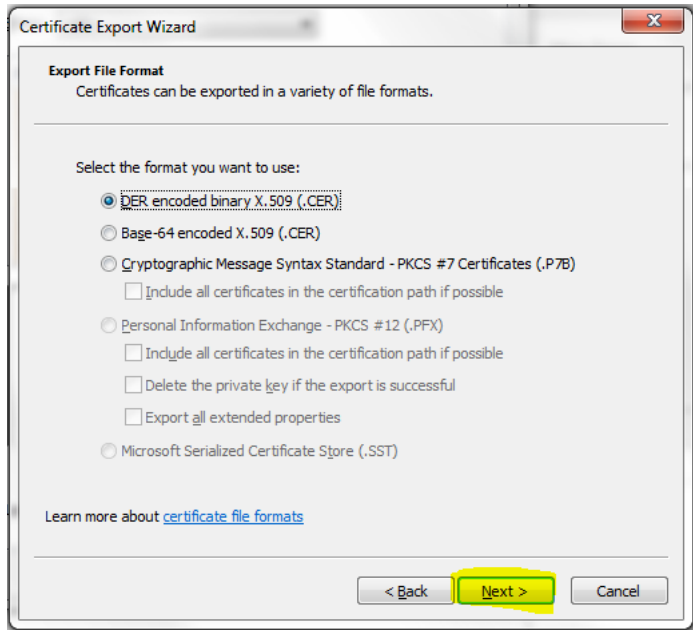

FIG. 466 Certificate Export Wizard - Export File Format
7. Select either of the X.509 formats (DER or Base-64) to export the certificate to and click **Next** (FIG. 466):